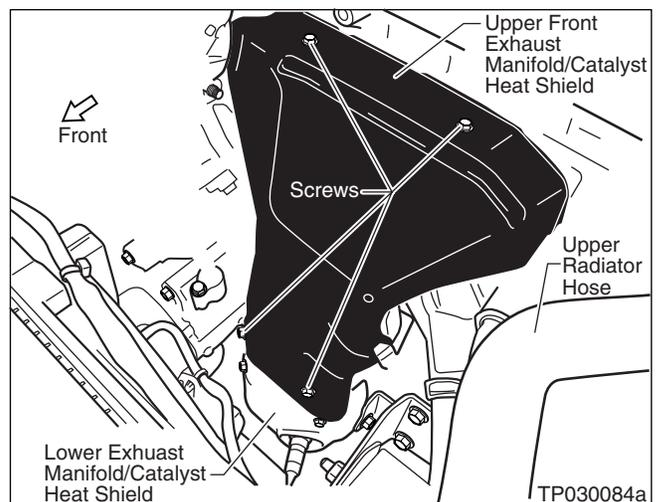

Figure E9
- Carefully remove four screws that secure the Heat Shield (see Figure E9).